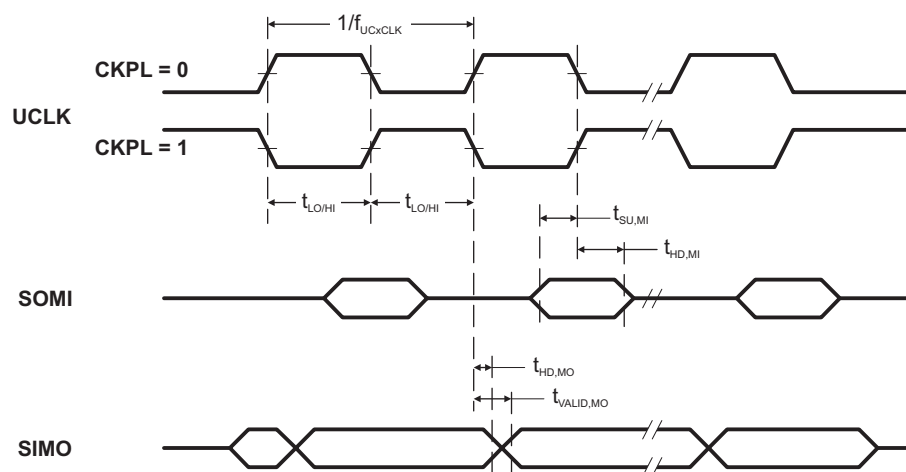
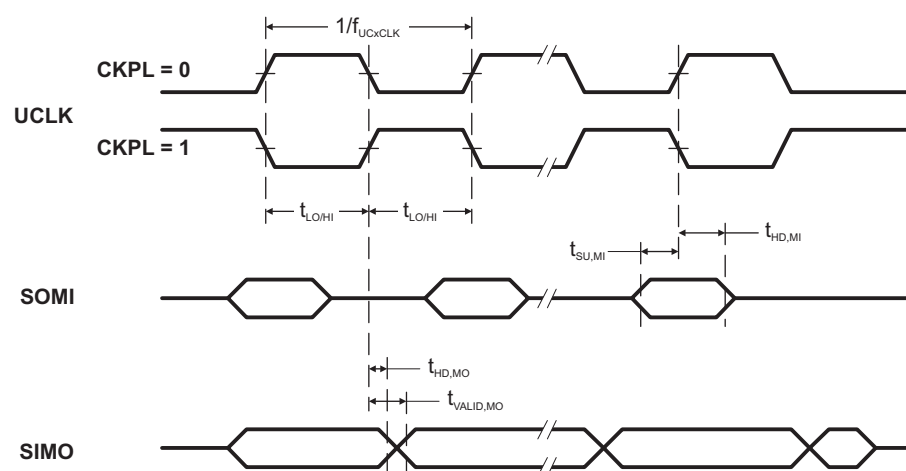

Figure 11. SPI Master Mode, CKPH = 0
Figure 12. SPI Master Mode, CKPH = 1
(see Note (1), Figure 11 and Figure 12)
- (2) Specifies the time to drive the next valid data to the SIMO output after the output changing UCLK clock edge. See the timing diagrams in Figure 11 and Figure 12.
- (3) Specifies how long data on the SIMO output is valid after the output changing UCLK clock edge. Negative values indicate that the data on the SIMO output can become invalid before the output changing clock edge observed on UCLK. See the timing diagrams in Figure 11 and Figure 12.
(2) Specifies the time to drive the next valid data to the SOMI output after the output changing UCLK clock edge. See the timing diagrams in Figure 11 and Figure 12.
(3) Specifies how long data on the SOMI output is valid after the output changing UCLK clock edge. See the timing diagrams in Figure 11 and Figure 12.